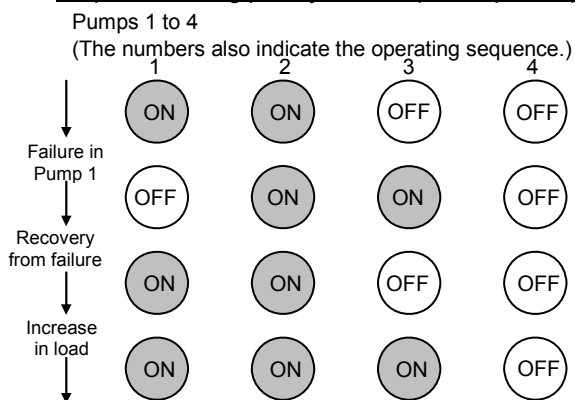

Figure 16. Operation example: Sequential setting priority method (when load is increased)
There are two selectable methods to adjust operating sequence for the changeover of operating sequence tables, the changeover from manual to automatic operation, and the restoration from a failure or a forced stop (for the sequential method only). Refer to Figs 16 to 19.
- Sequence setting priority method (See Figs. 16 and 17.): Start and stop of the pumps are executed according to the operating sequence setting all the time.